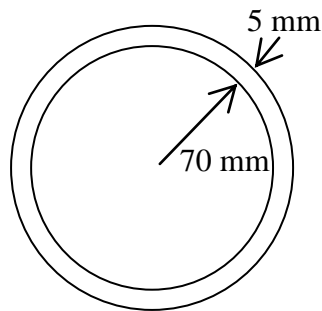

Figure 10(a)
- (b) (i) Show that the shape factor for a circular hollow shape steel section as shown in Figure 10(a) is 1.27. [5 marks]
- (ii) Determine the plastic moment for the beam loaded as shown in Figure 10(b) by virtual work method. [5 marks]